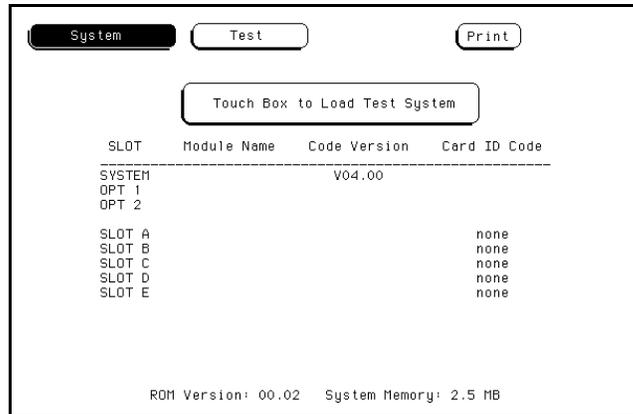

Figure 4-3. Loading the Test System
- Verify that test files are on an installed disk. Touch the field close to the center of the screen to load the Test System. See figure 4-3.